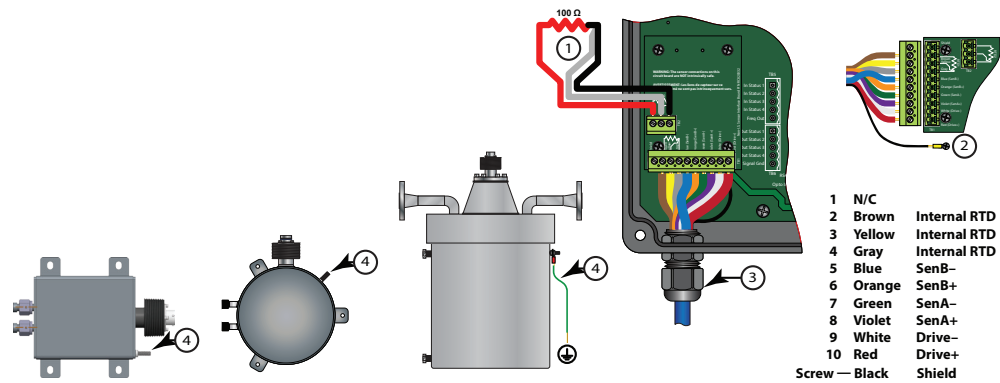

Figure 54: RCTN sensor connections
9. Unplug the ten-pin connector on the interface board and attach the sensor cable to the appropriate wire color codes. See *Figure 54*.
12. All RCS sensors are equipped with a 1/4 in. threaded ground stud. Connect this stud to a protective (earth) ground with a minimum of a 10 AWG conductor. See *Figure 26 on page 23* and *Figure 54 on page 39*.